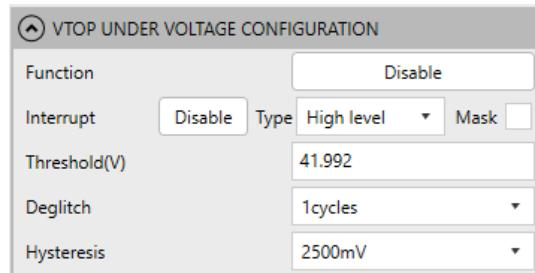

Figure 28: VTOP Under-Voltage Configuration
20. Figure 28 shows the VTOP Under-Voltage Configuration settings in the GUI.